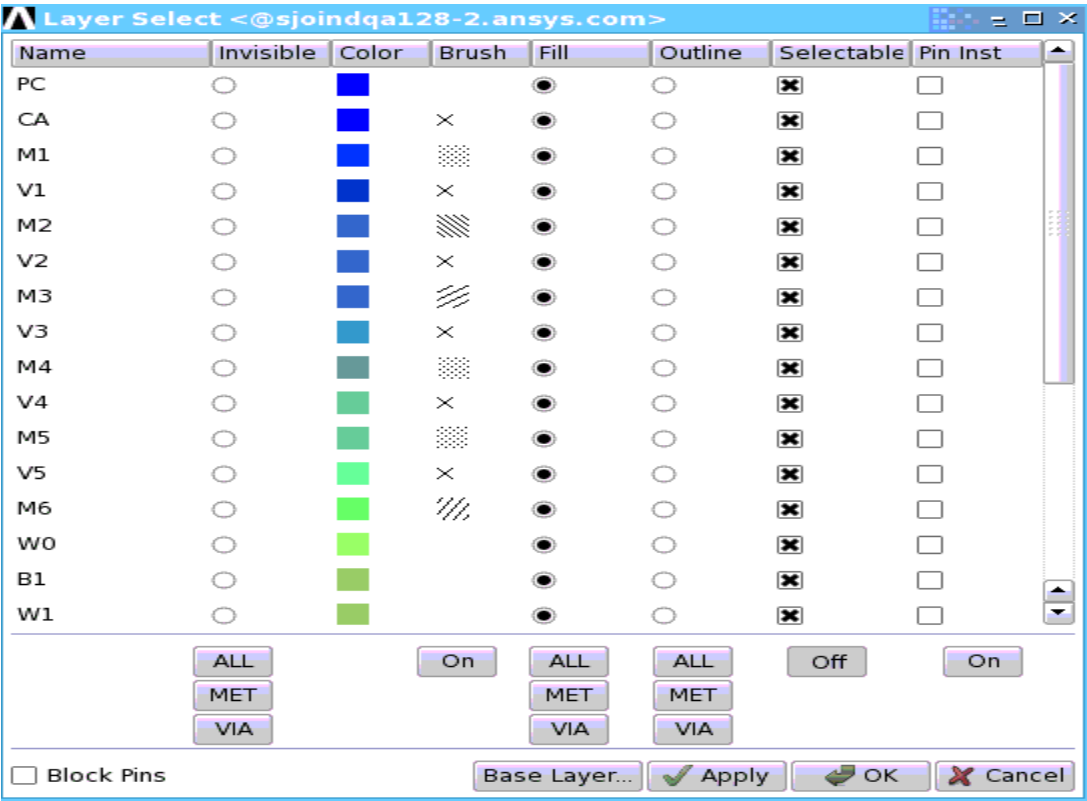

Figure D-6 Layer selection and object display dialog
To display the properties of objects in a design you can left button click on them in the layout view (**SA** button). The object selected is highlighted, and its properties are shown in the log display area. Note that the objects desired must have their display properties turned on, such as instances, pins or vias, and the appropriate layer must be displayed (see the Layer dialog description and Figure D-6).
- “View Layers” (left button in the row) - displays the ‘Layer Select’ dialog box, as shown in Figure D-6, to allow modifying the display of objects on metal and via layers in the design, as well as pin instances. For each layer in the design you can choose whether to display its objects or not (**Invisible** button), change their display color (**Color** column), choose whether to display the objects in solid colors (**Fill** button) or in **Outline**. In locations in which there are objects on many layers at the same point, you can easily select an object on a lower layer by making only its layer selectable with the **Selectable** button. Using the **Pin inst** display buttons allows pins to be displayed by layer, independent of other objects. Because there are so many pins, pin instance display is Off by default to avoid interfering with the display of other objects. Zoom in to the instance before turning on pin display, in order to easily find the desired pin. For designs with more than one via model per layer, each via model is listed and can be displayed separately using the dialog. Buttons at the bottom of several selection columns allows **Net** or **Via** layers to be turned off and on as a group. Block pins also can be independently turned off and on using the **Show Block Pins** button at the bottom of the dialog.